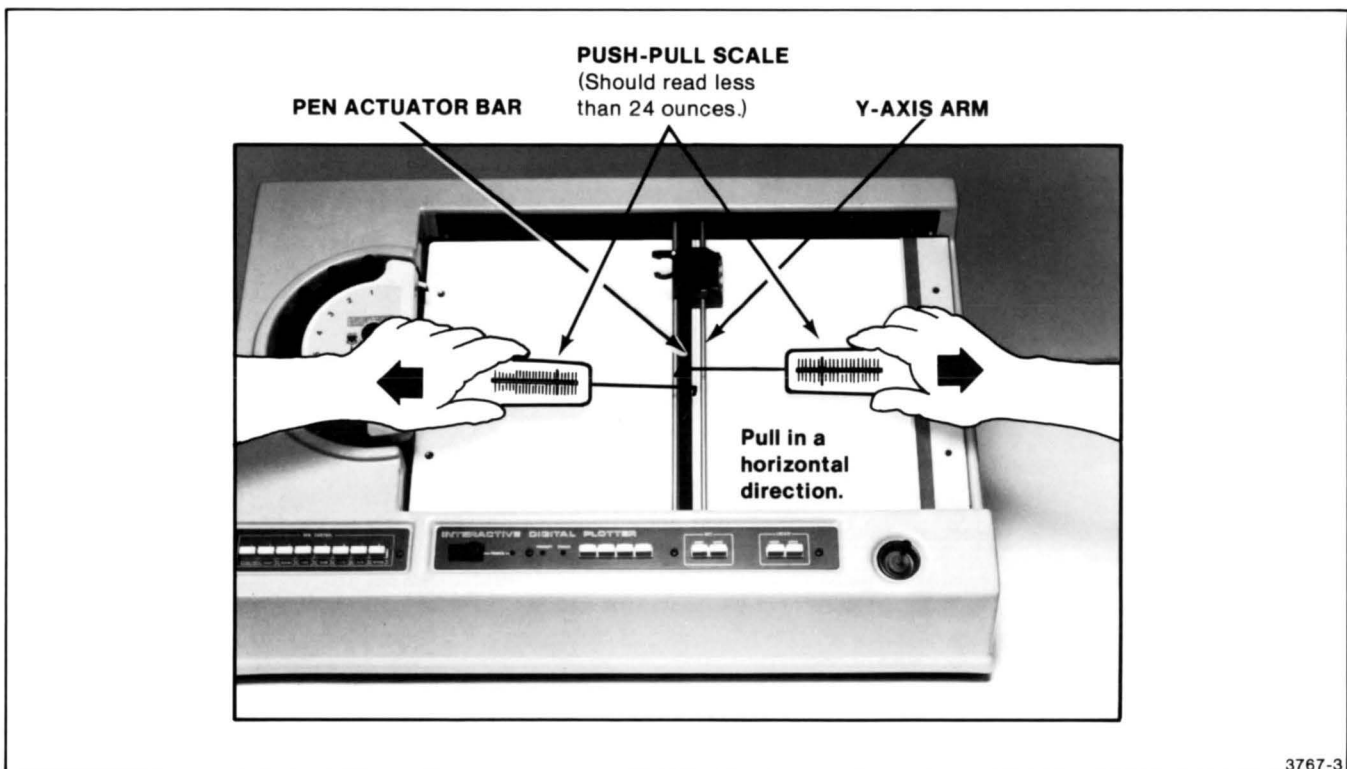

Figure 2-2. Y-Axis Arm Pull Test.
1. **Hook** the push-pull scale (or fish-weighing scale) over the Pen Actuator Bar as shown in Figure 2-2. Use the push-pull scale to pull the Y-axis arm back and forth across the platen. If the force required to move the Y-axis arm in either direction is greater than 24 ounces (1.5 lbs or 681 grams), it may be necessary to lubricate the X-axis shafts and the pen solenoid shaft and/or to replace some of the components listed in the preceding note.